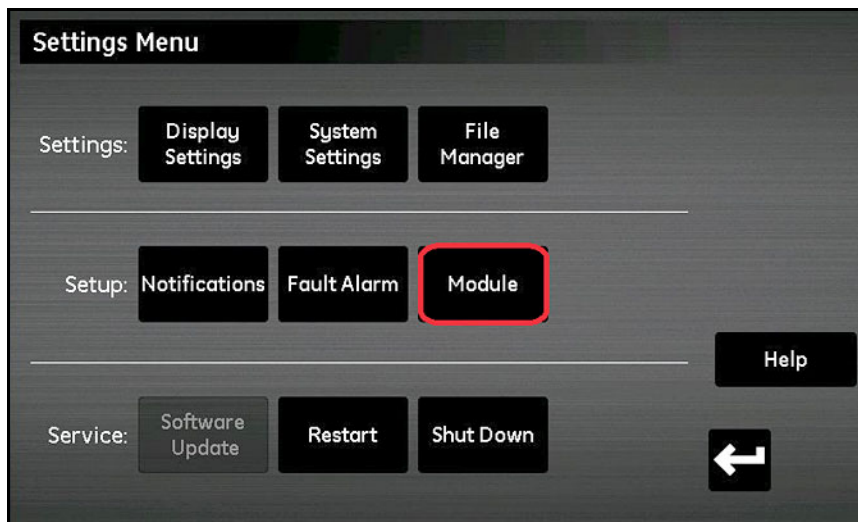

Figure 94: Module Update
- In the **Setup** section, tap the **Module** button (see Figure 94 below).